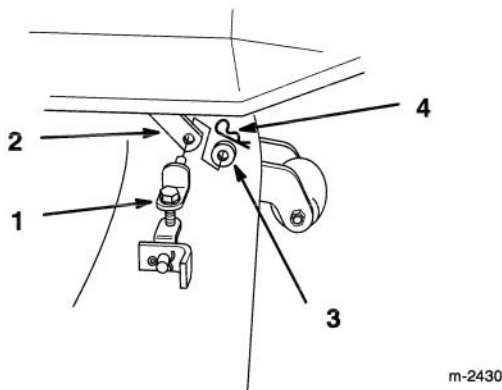

Figure 12
4. Remove small hairpin cotter and washer from front adjustable link and remove from front lift arm (Fig. 12).